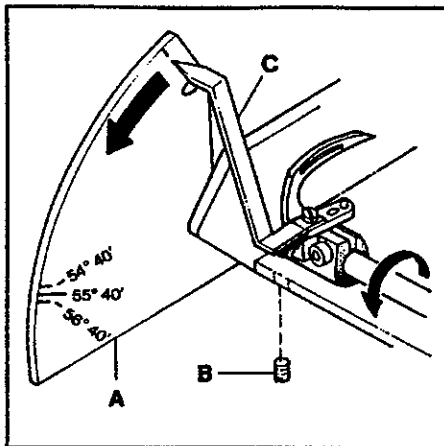

FIG. 6
Attach looper travel gauge plate (A, Fig. 6) to the rear of the cylinder arm. Set the bottom of the gauge so it is approximately horizontal and lock lightly in place with screw (B) directly underneath. Attach looper travel gauge pointer (C) to the looper using the left needle guard screw hole. Turn the handwheel in operating direction until the looper is positioned to the far right. Set pointer (C) at zero degrees by rotating gauge plate (A) and lock in place. Continue turning the handwheel until the pointer stops. If the looper travel is correct the pointer should indicate $55^{\circ}40'$ or within one graduation mark on either side.